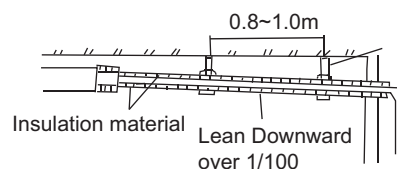

Fig. 6-1
- Refer to the Fig.6-1 for the installation of the pipes.